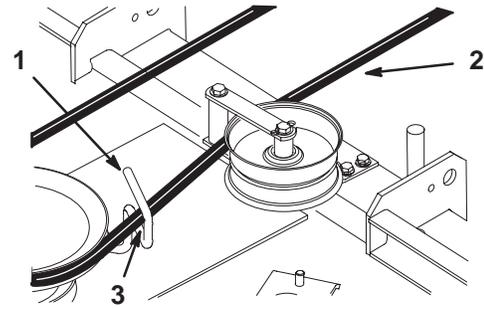

Figure 66
- Rotate the belt guide, on rear of the mower, so it is 1/8–1/4 in. (3–7 mm) away from the vertical side of the PTO belt (Fig. 66).